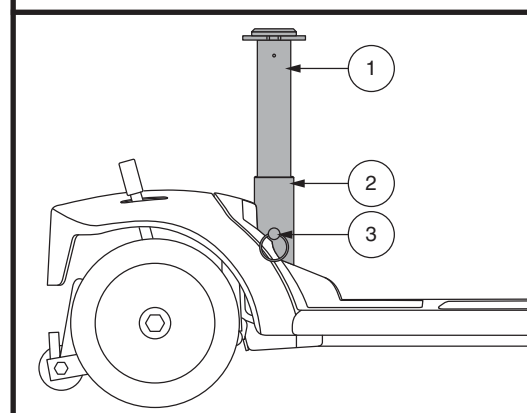

Figure 25. Seat Height Adjustment
The seat can be repositioned to different heights. See figure 25.
2. Remove the upper seat post from the Travel Scooter by removing the detent pin from the lower portion of the seat post, then lifting the post straight up and off the Travel Scooter. **See figure 25.**